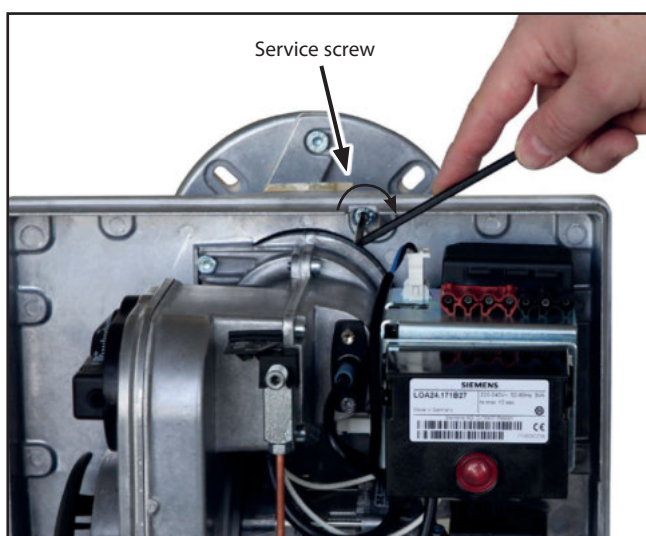
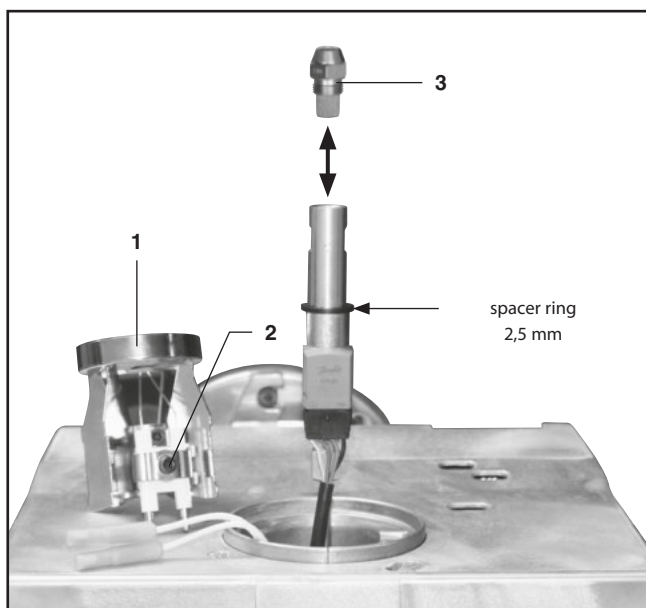

Figure 8
Figure 9
Loosen the service screw by 1/2 turn using a 4 mm hexagon socket wrench (see fig. 8). Turn the burner to the left and remove it from the burner pipe. Then, place it in the service position (see fig. 9).
- Loosen screw (2) using a 4 mm hexagon socket wrench and remove the baffle plate (1) (see fig. 9).
- Remove installed nozzle (3) and screw on the selected nozzle (see fig. 9).